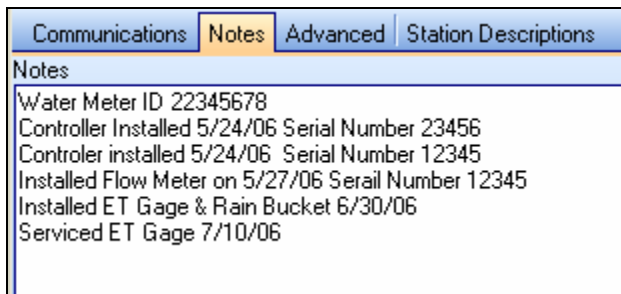

Figure 33.3.3
1. By clicking on the “Notes” tab you will open up an area where you can enter additional information about the controller (Figure 33.3.3).